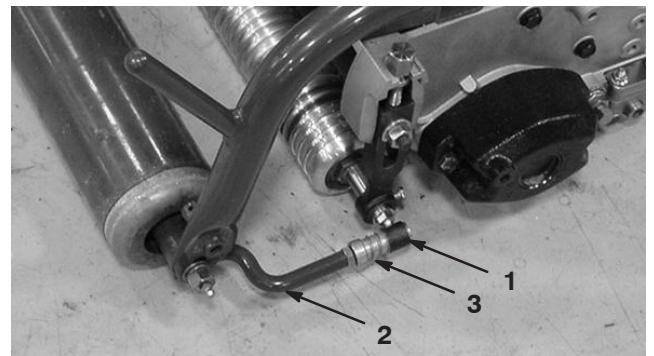

Figure 12
4. Slide the sleeve back on the ball joint and rotate the pull arm down so the socket fits over the ball stud. Release the sleeve so it slides over the stud and locks the assemblies together (Fig. 12).
6. Align the sockets in the ball joints so the open side of the socket is centered towards the ball stud. Tighten the jam nuts to secure the sockets in position (Fig. 12).